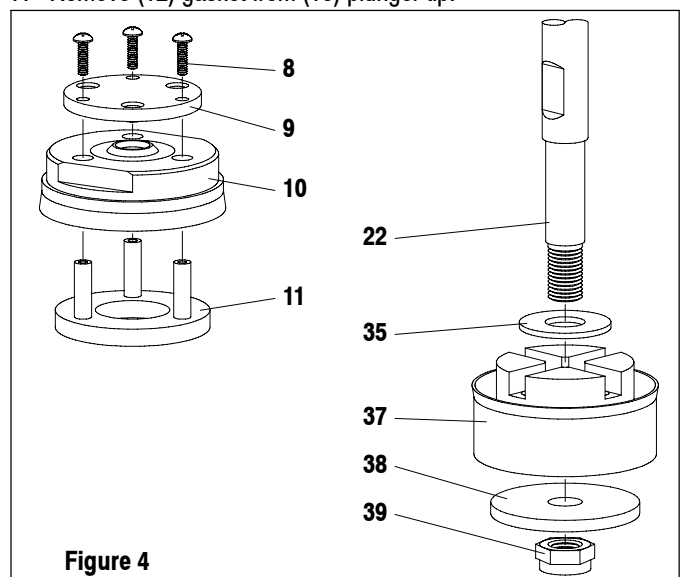

Figure 4
8. Remove the three (8) screws from the (11) valve spacer (see figure 4).
9. Remove the (9) valve plate.
10. Remove the (11) valve spacer from the (10) piston assembly.
11. Unthread (13) plunger tip from the (15) plunger by using a wrench on the flats of the (13) plunger tip and a strap wrench on the (15) plunger. CAUTION: Place the strap wrench on the very upper most part of the (15) plunger.
12. Remove (14) "O" ring.
13. Remove (21) dowel pin.
14. Remove (13) plunger tip.
15. Remove (15) plunger.
16. Remove (17) spring from the (18) pump body.
17. Remove (19) "O" ring from the (18) pump body.
18. Using a pipe wrench, unthread and remove the (34) suction tube from the (18) pump body. CAUTION: Place the pipe wrench on the very upper most or very lower most part of the (34) suction tube. Do not damage or dent this tube.
19. Remove (25) "O" ring from the (18) pump body.
20. Grasp the (22) piston rod and remove by pulling straight out.
21. Using a strap wrench on (36) tube, unthread and remove from (18) pump body. CAUTION: Do not damage or dent this tube.
22. Remove (26) "O" ring from (18) pump body.
23. Remove (24) plug and (23) "O" ring.
24. Clamp the (43) intake valve assembly in a vise. Using a strap wrench on (34) suction tube, unthread and remove from valve assembly. CAUTION: Do not damage or dent this tube.
25. Using a wrench on flats of (22) piston rod, unthread and remove (39) nut (see figure 4).
26. Remove (38) washer, (37) cup and (35) washer from (22) piston rod.
27. Remove (32) retaining ring from the (22) piston rod, using retaining ring pliers.
28. Remove (33) piston from (22) piston rod.
29. Remove two (30) packings (where applicable).
30. Remove (31) "O" ring from (22) piston rod.
31. NOTE: Do not remove (27) groove pin and (28) collar from (22) piston rod unless damage is evident. Remove (27) groove pin, releasing (28) collar.
1. Insert the (11) valve spacer thru the bottom of the (10) piston assembly (see figure 4).
2. Place the (9) valve plate on top of the (10) piston assembly, aligning the three holes with the posts of (11) valve spacer.
3. Fasten the (9) valve plate down using the three (8) screws. Lay this assembly aside for the moment.
4. Place the (28) collar on the (22) piston rod and secure with (27) groove pin.
5. Assemble (29) washer next to (28) collar on (22) piston rod.
6. Grease and assemble (31) "O" ring to (22) piston rod.